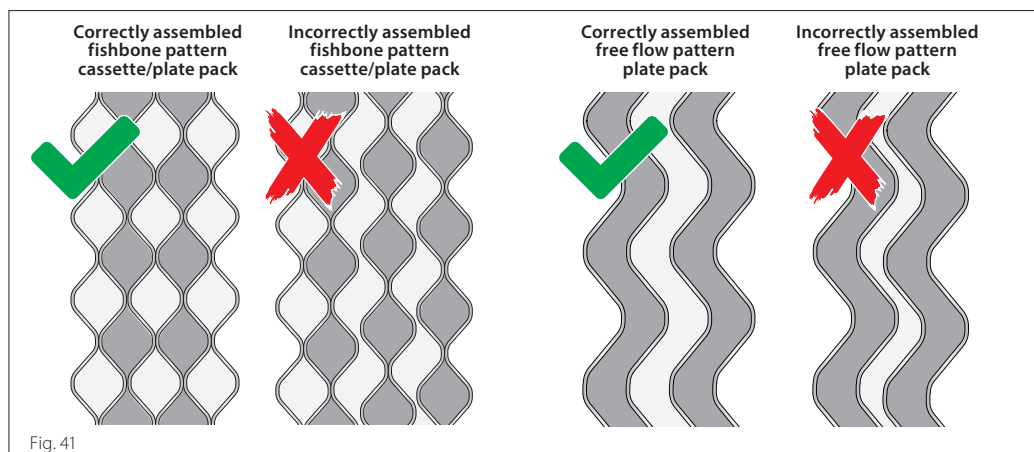

Fig. 41
- Check the plate/cassettes honeycomb profile for uniformity (see fig. 41)